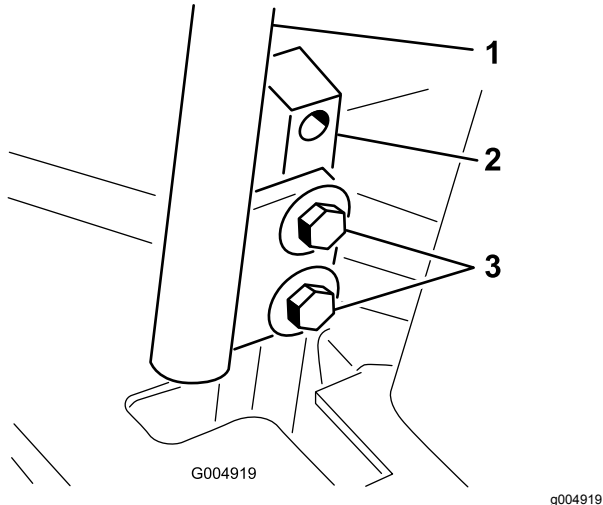

Figure 55
3. Loosen the bolts securing the control levers (Figure 55).